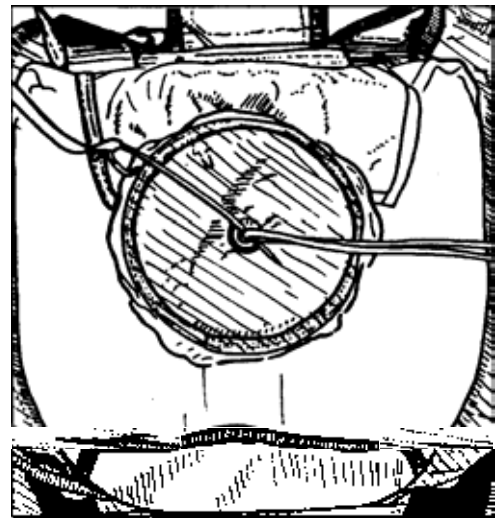

Figure 12
Step 24 Collapse the pilotchute while stuffing the fabric **INSIDE** the coils. **IMPORTANT!** Do not leave the fabric outside coils as a coil lock could occur and the launch of the pilotchute may be inhibited. Place the arrow located on the top of the pilotchute towards the top of the container. Lock with a temporary pin. *Figure 12*